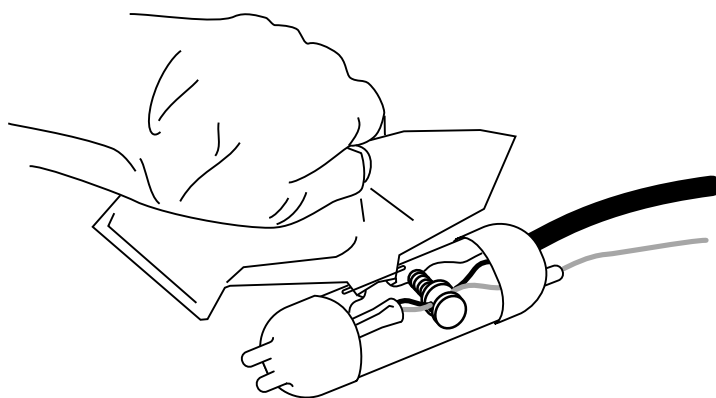

Figure 22. Pouring Sealing Compound Into Sleeve
8. Once the mixture feels warm, immediately cut one corner and slowly fill the plastic sleeve. Stop just short of filling the entire sleeve. **Do not overfill.** [Figure 22]